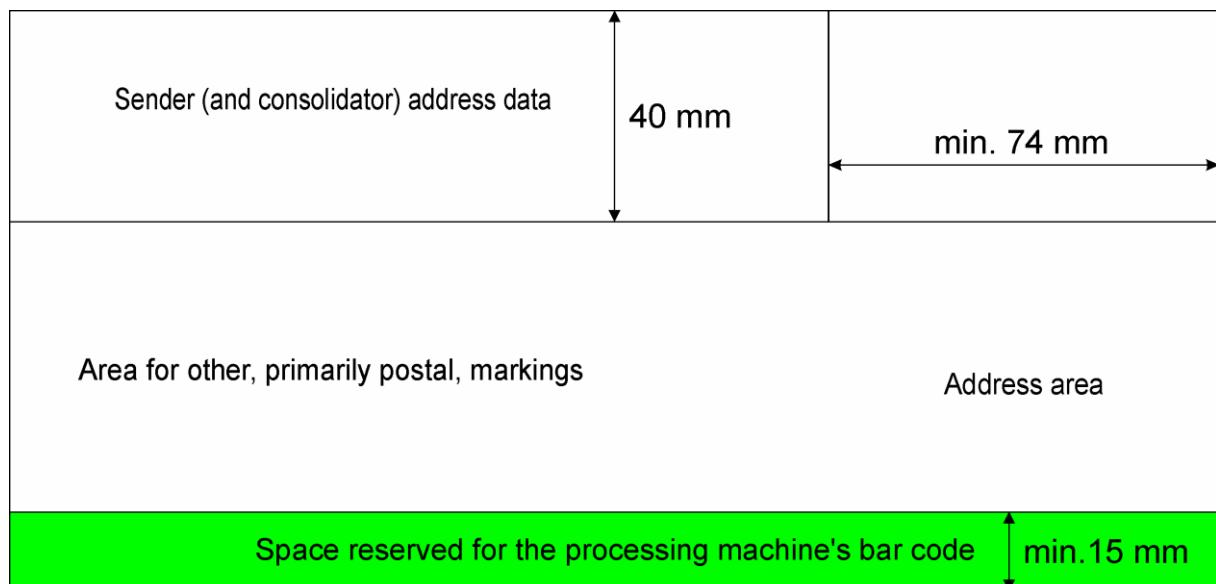

Figure 21: Space for processing bar code on ordinary and medium-sized items
- b) The aperture may not be surrounded by a coloured border or frame. If the envelope is coloured, a white border at least 5 mm wide must completely surround the aperture. (Figure 21)